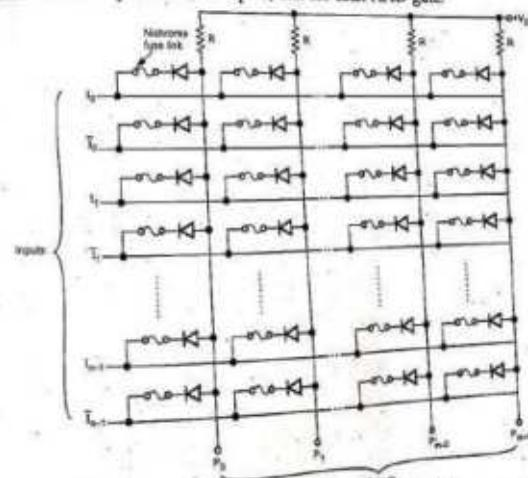

Fig. 7.12.4 Internal structure of AND matrix
- Fig. 7.12.4 shows the AND matrix. It is used to form product terms. It has m AND gates with 2n-inputs and m-outputs, one for each AND gate.
- Fig. 7.12.4 shows the AND gates formed by diodes and resistors structure. Each AND gate has all the input variables in complemented and uncomplemented form.